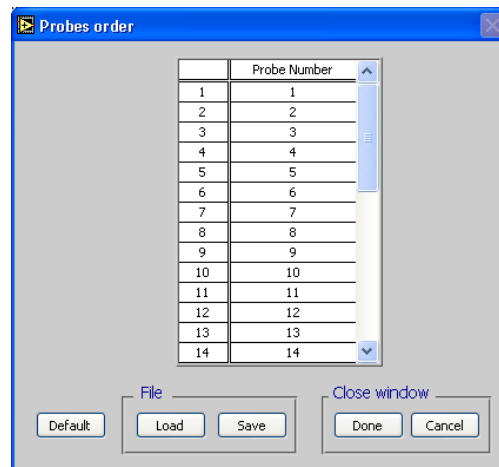

Figure 21 : Probe measurement order window
- It is possible to rearrange the order in which the probes are measured by pressing the "Change measurement order : " button. The window shown on Figure 21 is then opened.